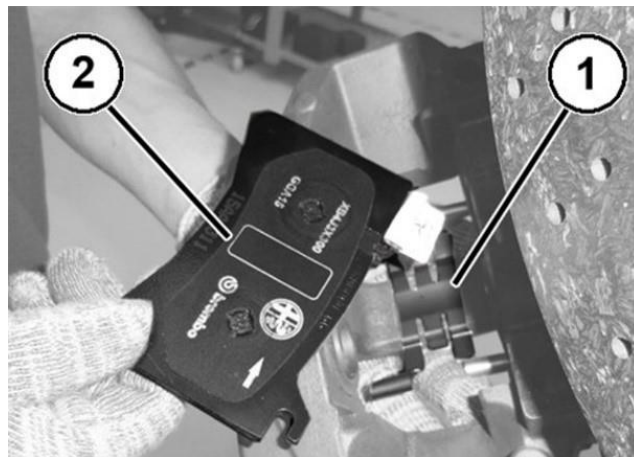

Figure 14 – Inner Brake Pad
37. Install the **NEW** inner brake pad (2) in its housing, complete with wear sensor (2) (Figure 14).